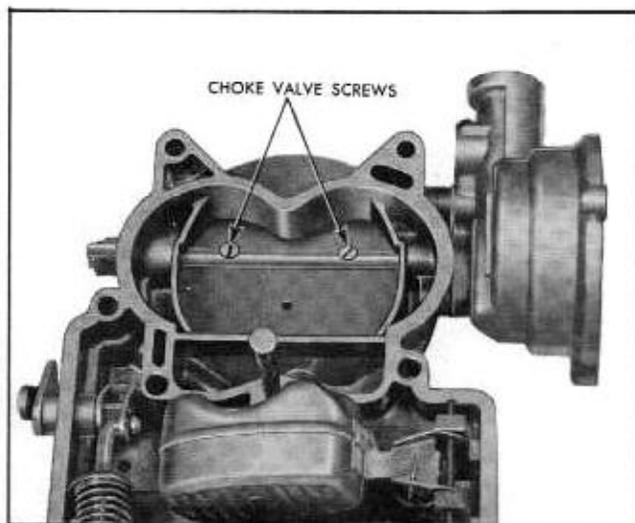

Fig. 6B-55 Location of Choke Valve Attaching Screws
8. Remove two choke valve screws, then remove choke valve (Fig. 6B-55).